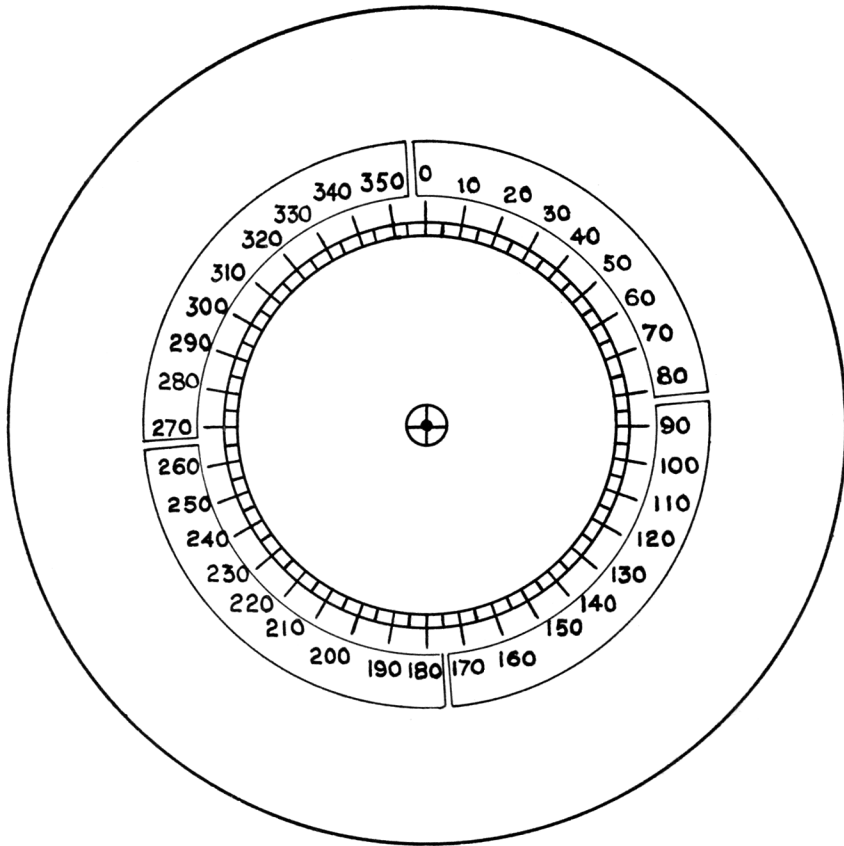

FIG.3.
- The screen calibration markings shall be made by sticking on an approved transparent material. The markings shall be as shown in Figure 3. The calibration must be sufficiently accurate to pass the relevant tests given. At Type Approval the scale will be subjected to mechanical and tropical tests.